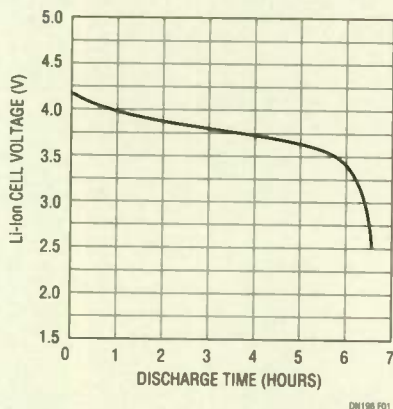
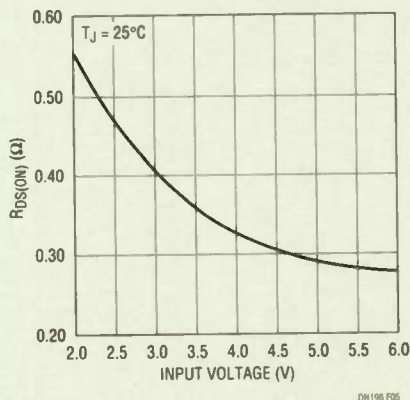

Figure 1. Typical Single-cell Li-Ion Discharge Curve
Figure 5. PMOS Switch Resistance vs Input Supply Voltage
In addition to minimizing the length of these lines, particular attention also must be paid to terminations, stubs, corners on circuit lines, and balancing differential lines to make sure they have equal electrical lengths. Termination resistors should be as close to the end-point of the line as possible. In the Figure 1 reference design, all of the 2.5-GHz circuits are equal length 50-ohm transmission lines, terminated directly at 50-ohm resistors that are embedded in the S3045 device. Other key issues in layout are to avoid any 90-degree turns in the high-speed lines and to always use adequate decoupling.
5. Referring to the circuit in Figure 1, appropriate use of series-damping resistors is needed to avoid ringing from the CMOS output transistors, which can accumulate into noise problems throughout the system.
The intricacies of parallel bus interface management further underscore the need for good distributed decoupling throughout the board design, not just between the transceivers and the power supply. Referring again to Figure 1, the series of 8-bit 77-MHz interfaces between the four PMC-Sierra devices and the S3045 device would need to be carefully routed to maximize timing margin and minimize coupling risk. Line spacing between all signals of different origin should be at least three to four line widths to reduce the potential for coupling and interference. In addition, the appropriate use of series-damping resistors is needed to avoid ringing from the CMOS output transistors, which can accumulate into noise problems throughout the system (Fig. 5).
As shown in Figure 1, a fully charged single-cell Li-Ion battery begins the discharge cycle between 4.1V and 4.2V. During most of the discharge period, the cell produces between 3.5V and 4.0V. Toward the end of discharge, the cell voltage drops fairly quickly below 3V. The discharge is typically terminated somewhere around 2.5V (depending upon the manufacturer's specifications).
The integrated PMOS switch in the LTC1626 is designed to provide extremely low resistance at low supply voltages. Figure 5 is a graph of switch resistance versus supply voltage.
This is sometimes referred to as headroom. Music signals can have crest factors as high as 15 dB, which means that peaks of over 30 times the RMS value can occur. There is a dramatic difference in test results when music signals rather than sine waves are used to determine the power-efficiency of Class-AB and Class-D amplifiers (Fig. 1).
The simulations outlined in Figure 1 were done at full power, which occurs when the input signal is large enough to drive the output to the rails without clipping. The results are even more dramatic when the same simulation is done at normal listening levels, which are usually much less than full power. At less-than-maximum power, the efficiency of linear amplifiers drops considerably faster than does the efficiency of Class-D devices. These simulation results support the empirical battery-life tests that found that Class-D APAs are two to three times more power efficient than linear devices.
Consider the connection between the notebook computer's audio codec, a Class-D APA, and a set of speakers (Fig. 5). The input capacitors, in series with the amplifier's input resistance, form a high-pass filter. This filter blocks any dc signal and sets the low-frequency ( $F_{LO}$ ) -3-dB point at 20 Hz according to: